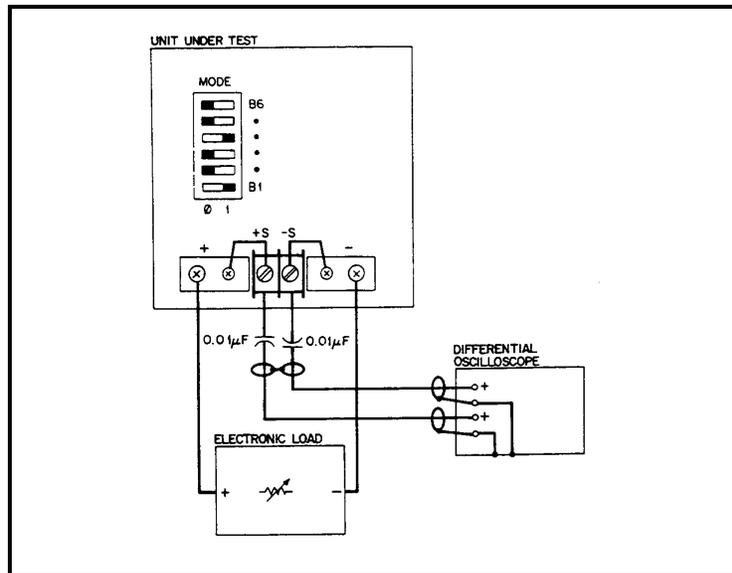

Figure 2-5. Peak-To-Peak Measurement Test Setup, CV PARD Test
Peak Measurement Procedure. Figure 2-5 shows the interconnections of equipment to measure PARD in V_{pp} . The equipment grounding and power connection instructions of PARD rms test apply to this setup also. Connect the oscilloscope to the + OUT and - OUT terminals through $0.01\mu\text{F}$ blocking capacitors to protect the oscilloscope's input from
- a. Connect the test equipment as shown in Figure 2-5. Operate the load in constant resistance mode (Amps/Volt) and set resistance to maximum.